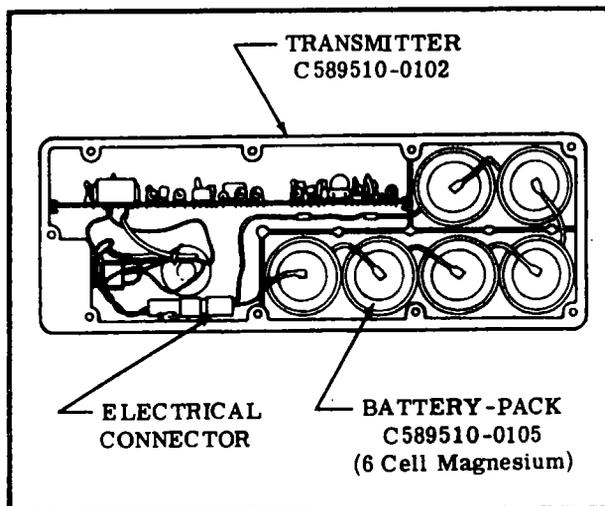

Figure 16-15. Magnesium 6 Cell Battery-Pack Installation
16-63. DESCRIPTION. Several types of Emergency Locator Transmitters (ELT) have been installed in Cessna aircraft. Each of the ELT's is a self-contained, solid state unit, having its own power supply, with an external mounted antenna. The transmitters are designed to transmit simultaneously on dual emergency frequencies of 121.5 and 243.0 Megahertz. All units were mounted in the tailcone, aft of the baggage curtain on the right hand side. The transmitters were designed to provide a broadcast tone that is audio modulated in a swept manner over the range of 1600 to 300 Hz in a distinct, easily recognizable distress signal for reception by search and rescue personnel and others monitoring the emergency frequencies. Power is supplied to the transmitter by a battery-pack which has the service life of the batteries placarded on the batteries and also on the outside end of the transmitter. ELT's thru early 1974 models, were equipped with a battery-pack containing six magnesium "D" size dry cell batteries wired in series. (See figure 16-15) Mid 1974 thru early 1975, ELT's are equipped with a battery-pack containing four "in-line" lithium "D" size batteries wired in series. Early 1975 and on ELT's are equipped with a battery-pack containing four lithium "D" size batteries which are stacked in two's (See fig. 16-16). The ELT exhibits line of sight transmission characteristics which correspond approximately to 100 miles at a search altitude of 10,000 feet. When battery inspection and replacement schedules are adhered to, the transmitter will broadcast an emergency signal at rated power (75 MW-minimum), for a continuous period of time as listed in the following table.
16-68. REMOVAL AND INSTALLATION OF MAGNESIUM SIX (6) CELL BATTERY-PACK. (Refer to figure 16-15.)